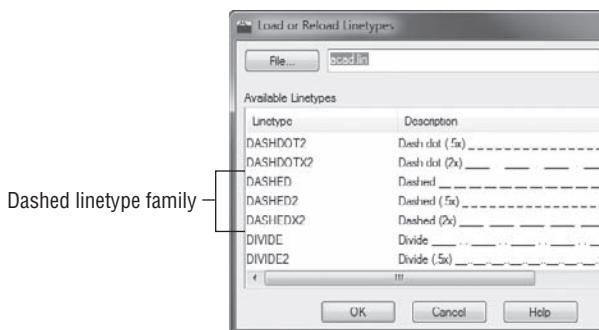

FIGURE 6.14 The list of available linetypes scrolled to the three Dashed linetypes
3. Click Load to open the Load Or Reload Linetypes dialog box. Scroll down the list to the Dashed, Dashed2, and DashedX2 linetypes (see Figure 6.14). Notice how, in this family, the dashed lines are different sizes.
dashes twice the size (called, for example, Dashedx2), and one has dashes half the size (called Dashed2). (See Figure 6.14, shown earlier.) Having an assortment of different sizes of one style of linetype is helpful for distinguishing between building components, such as foundation walls and beams, which, in addition to rooflines, might also need dashed lines.